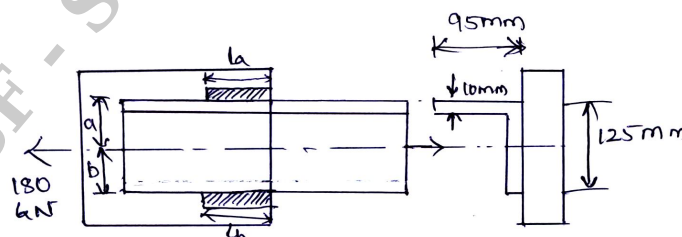

Fig.Q8(b)
b. A  $125 \times 95 \times 10\text{mm}$  angle shown in Fig.Q8(b) is jointed to a flange by the two parallel welds along the edges of 125mm length. The angle is subjected to a load of 180kN. Find the length of the weld if the permissible load per mm weld length is 430N. (11 Marks)